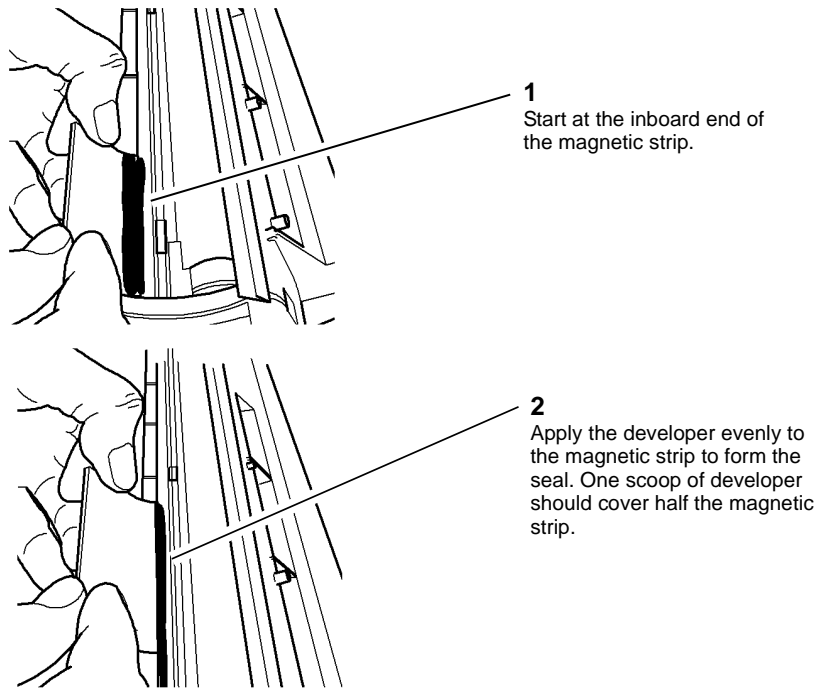

Figure 5 Applying developer
3. Apply the developer evenly to the magnetic strip to form the seal. Gently shake the tool as developer is applied to aid distribution, Figure 5.